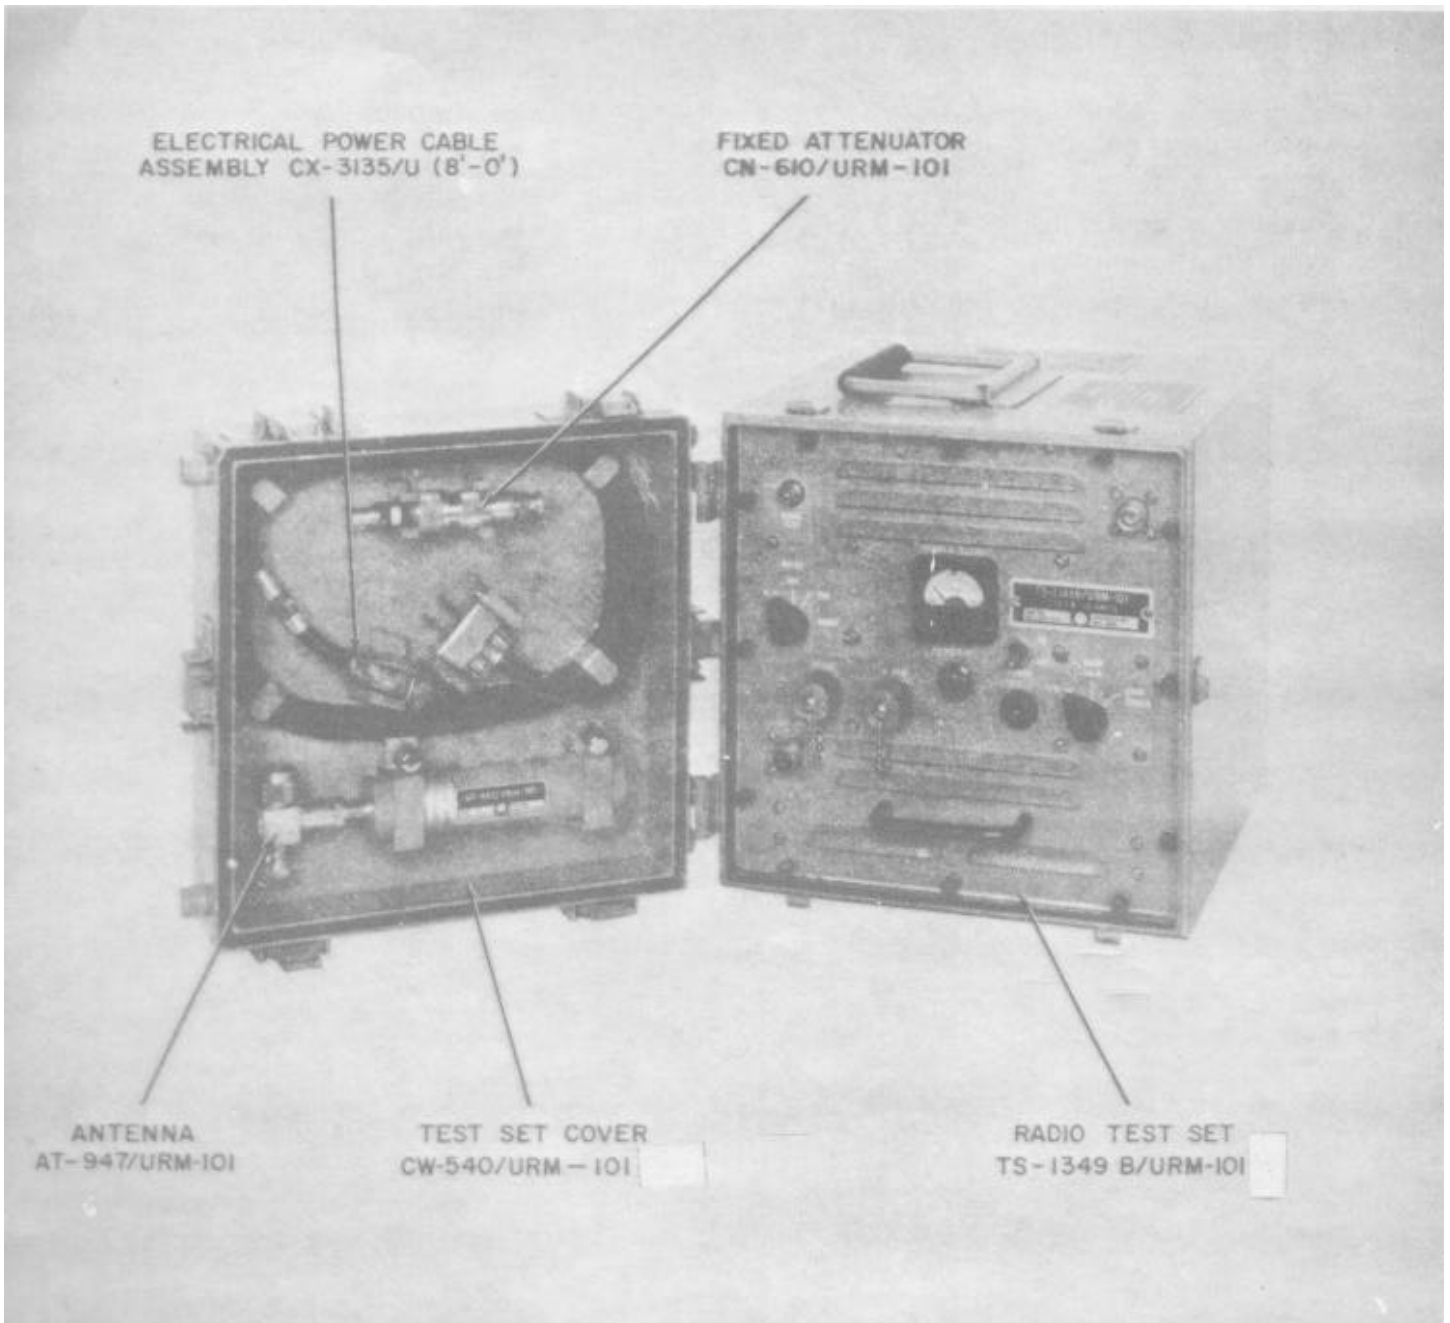

Figure 1-1. Radio Test Set AN/URM-101B.
**1-2. a.** This manual covers the description, general principles of operation, the operation, and maintenance of Radio Test Set AN/URM-101B (see figure 1-1). A Repair Parts and Special Tools List is also included (Appendix D) to aid in identifying and replacing parts. Throughout this manual the common usage name "test set" refers to Radio Test Set AN/URM-101B. Radio Test Set AN/URM101B combines Radio Test Set AN/URM101, Radio Test Set AN/URM-101A, and modification of Radio Test Set TS-1349/URM-101 to TS-1349B/URM-101.
**1-6. PHYSICAL CHARACTERISTICS.** The test set is a portable, self-contained unit enclosed in a metal case. (See figure 1-1.) Table 1-1 lists the equipment supplied as part of the test set. The cover portion houses the antenna, fixed attenuator, and electrical power cable assembly. The test set is held within the case by 12 captive knurled screws, located on the front panel. A handle on the test set is provided for carrying the equipment, and six latches to secure the cover of the case. An additional handle is provided on the front panel for easy removal of the test set chassis.